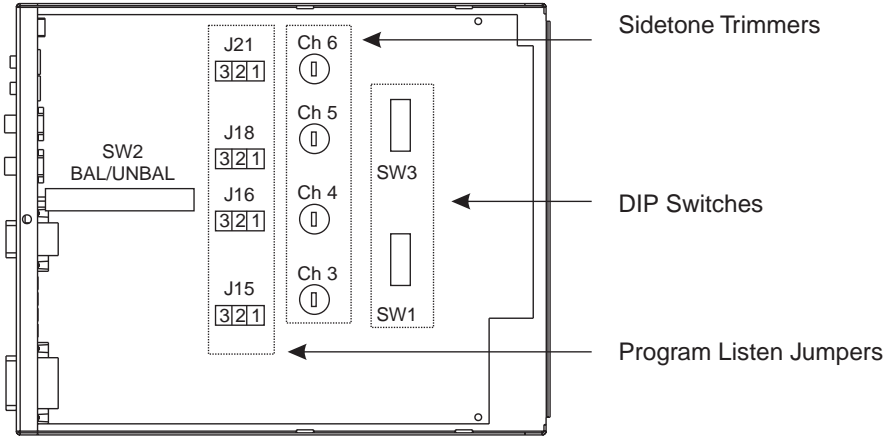

Figure 2. Locations of configuration switches, jumpers, and sidetone controls. (Top cover removed.)
- 10. Configuration Switches, Jumpers and Sidetone Controls (Figure 2). These let you customize the operation of the ES4000A to match your intercom system requirements. See “Configuration Pre-check”, page 7, for details.
Before making connections, read the configuration notes that follow, and make sure that all switches and jumpers are properly set for your intended usage. Locations of configuration switches and jumpers are shown in Figure 2. Only the DIP switches and jumpers require internal access. If access is required, remove one screw from the top cover and 3 screws from each side.
By default, each program input can be heard by intercom stations on the corresponding intercom channel. (This can be turned on or off for each program input via the US2000A front panel programming. See "Turning the Program Inputs On and Off" in the Operation section of the US2000A User Instructions.) Additionally, all program signals can be heard directly in the US2000A speaker or headset, and each program is output at the corresponding speaker jack on the back of the ES4000A. To disable direct program listening for a program input, reset the appropriate jumper as shown in Table 2. Locations of the jumpers are shown in Figure 2, page 6.